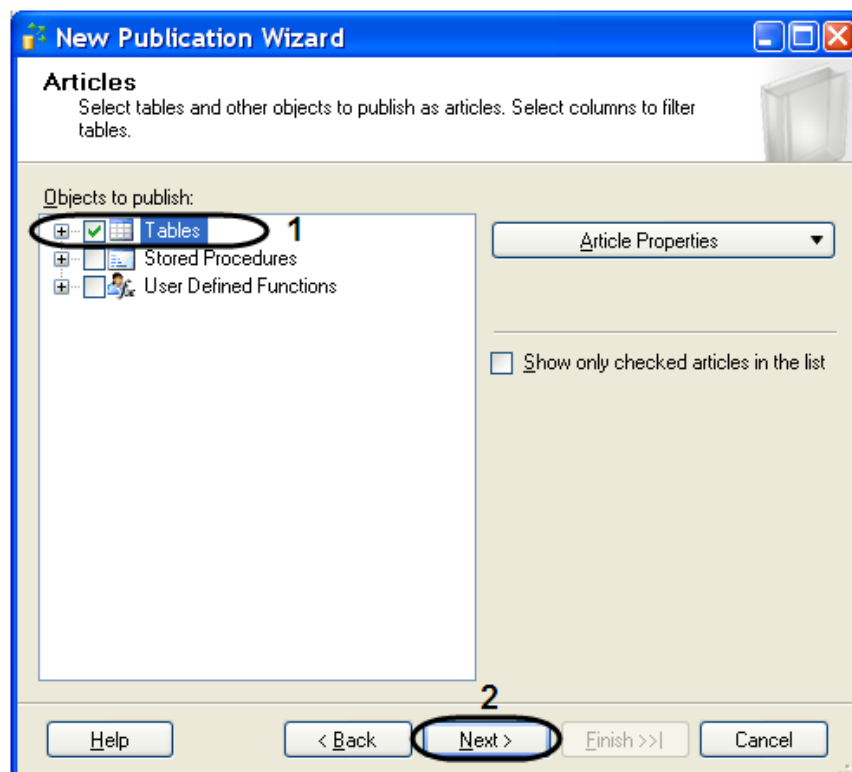

Fig. 9.3-7 Selecting the objects to publish
- 10.7. State the database objects to be included into publication, setting the checkbox «Tables» (Fig. 9.3-7, 1).
- 10.8. Click Next to continue (Fig. 9.3-7, 2).